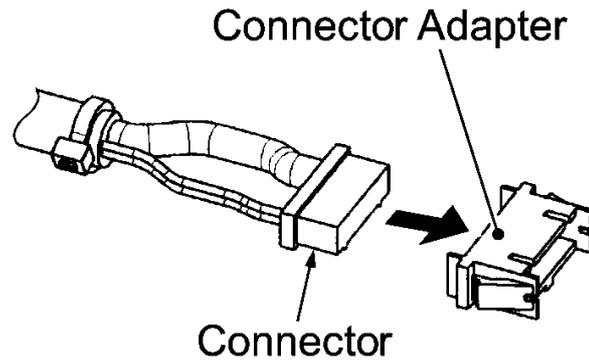

Figure 4.3 Removing the Connector Adapter
- (2) Remove the connector adapter along the arrow shown in Figure 4.3.